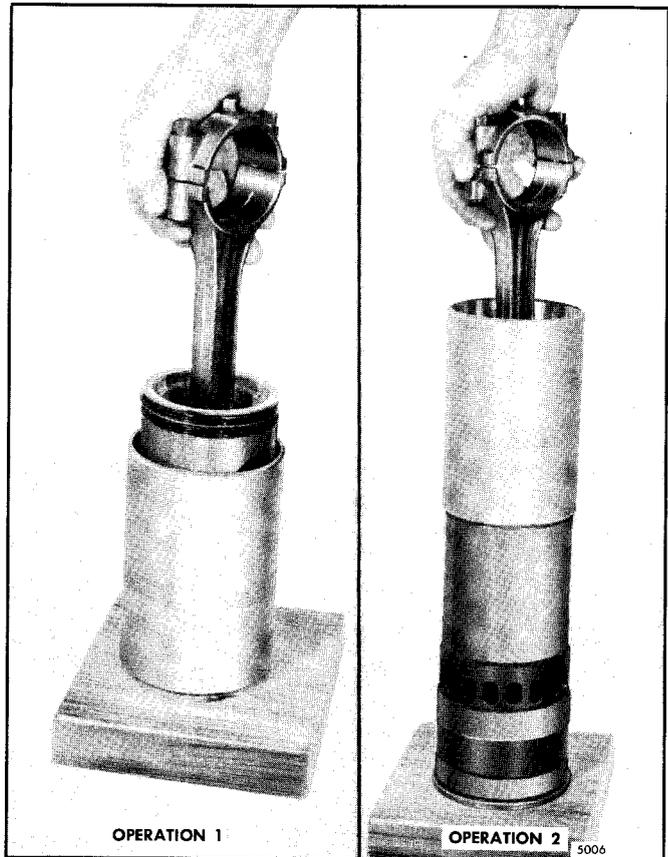

Fig. 8 - Installing Piston and Connecting Rod Assembly in Ring Compressor and Cylinder Liner
- Start the top of the piston straight into the ring compressor. Then, push the piston down until it contacts the wood block ("Operation 1" of Fig. 8).
matchmark on the liner ("Operation 2" of Fig. 8). The numbers, or number and letter, on the side of the connecting rod and cap identify the rod with the cap and indicate the particular cylinder in which they are used. If a new service connecting rod is to be installed, the same identification numbers, or number and letter, must be stamped in the same location as on the connecting rod that was replaced.